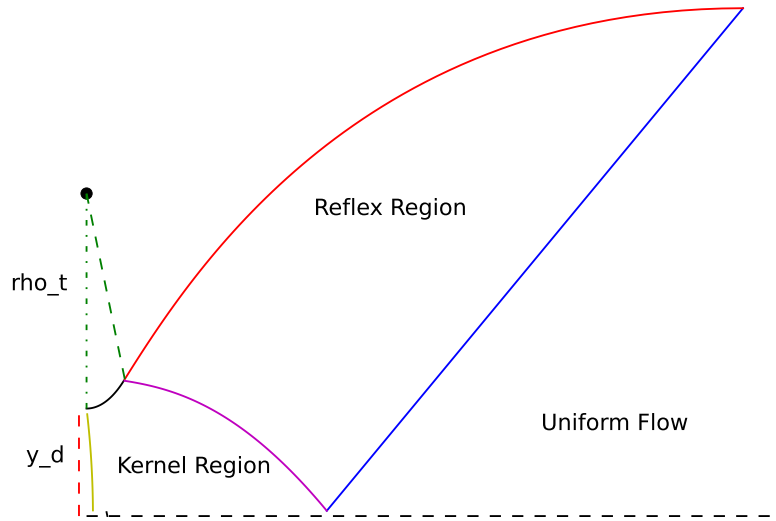

Figure 1: Nozzle Parametrization
9. **Design Variables:** Refer the Figure 1 for details about the parameters.